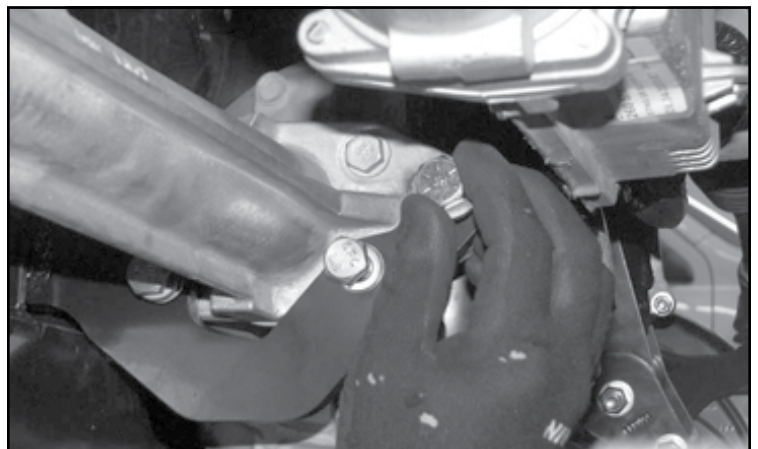

FIGURE 6 - STEP 4
4. Locate the new center differential bracket (FT30640). Install two of the Fabtech (FT1020) bushings and one sleeve (FT181) into the barrel on the differential bracket. Mount the new differential bracket to the center of the differential. Mount the front tab on the diff to the center bracket using the 1/2"-13 x 2" bolt, washers and new c-lock nut. Install the 1/2-13 X 4" bolt, washers and new c-lock nut on the bracket that mounts to the front crossmember. Leave loose at this time. **SEE FIGURE 6**